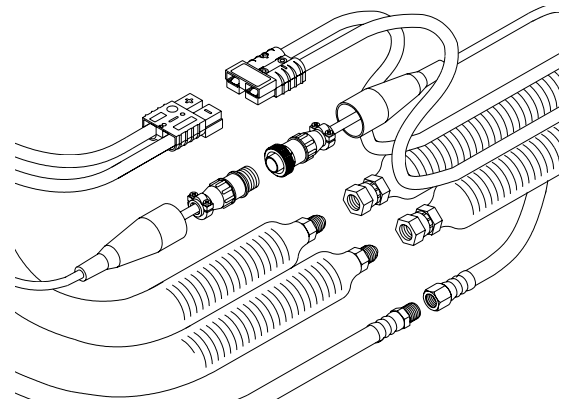

Figure 11. Hose Connection Step (a)
- a) Lay out the hose assemblies end-to-end as shown (see Figure 11).